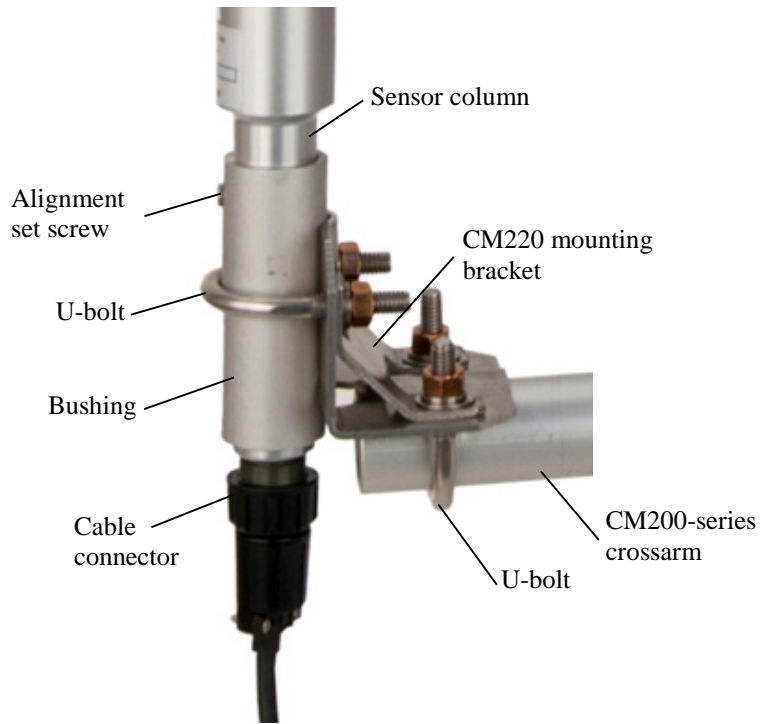
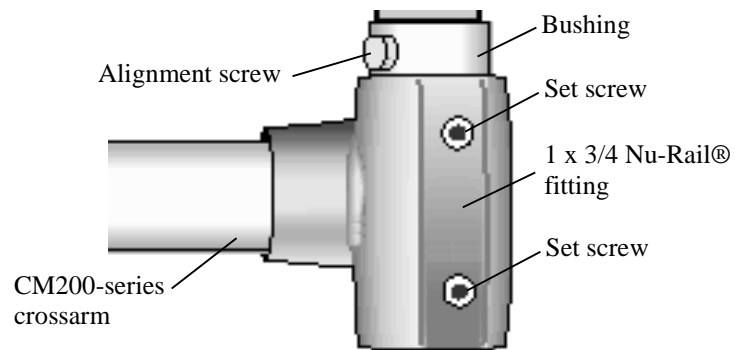
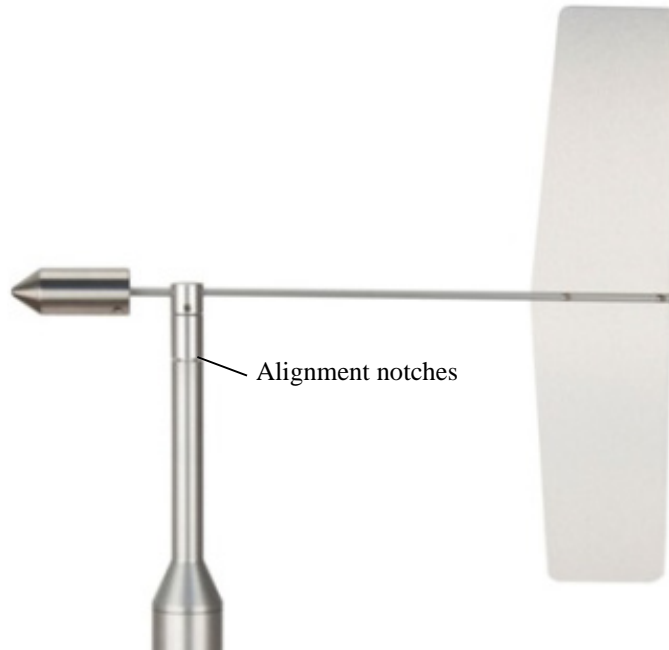

FIGURE 7-1. CM220 right-angle mounting bracket
FIGURE 7-2. 1049 Nu-Rail® fitting
FIGURE 7-3. 020C alignment notches
2. Assemble the sensor (FIGURE 7-1 and FIGURE 7-2):
3. Place the sensor and bushing in the CM220 bracket (FIGURE 7-1) or Nu-Rail® fitting (FIGURE 7-2).
4. Rotate the sensor and bushing such that the counterweight, alignment notches (FIGURE 7-3), and alignment screw (FIGURE 7-1, FIGURE 7-2) point true south.
5. Tighten the U-bolt if using the CM220 (FIGURE 7-1) or set screws if using the Nu-Rail® fitting (FIGURE 7-2).
6. Attach the sensor cable to the six-pin male connector on the 020C (FIGURE 7-1).